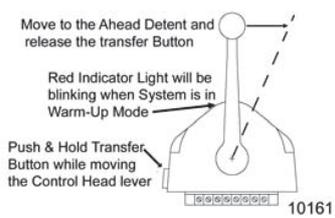

Figure 2-5: Control head Warm-Up Mode
- A At the Station-in-Command, ensure that the Control Head's lever is in the Neutral detent position (refer to Figure 2-5: Control head Warm-Up Mode).